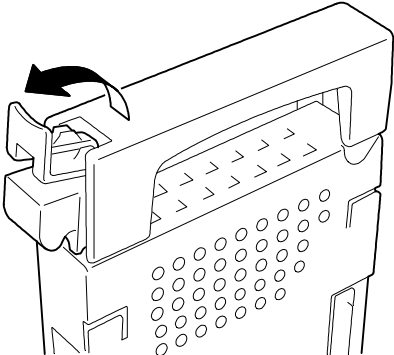

Figure 4-55. Unlocking the Carrier Lock Lever
- 9. Unlock the lock lever located at the bottom of the carrier handle, see Figure 4-55.